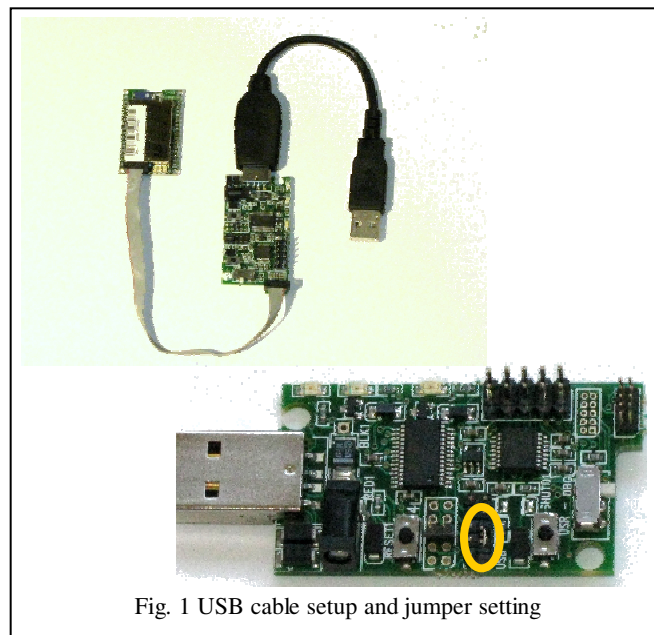

Fig. 1 USB cable setup and jumper setting
4. Verify that the jumper is set for USB mode, perpendicular to the length of the evaluation board (See figure 1)